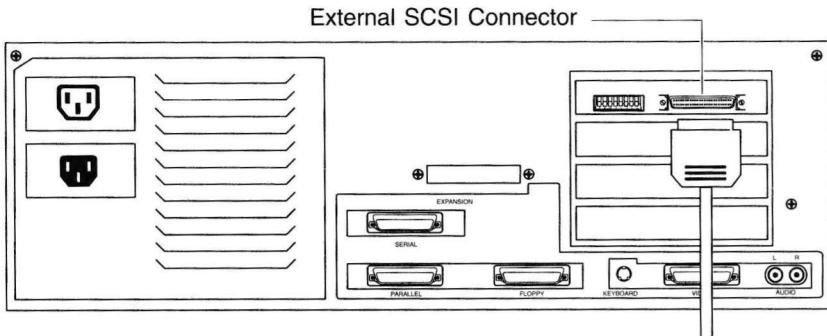

Figure 8. Connecting a Device to the External Connector
4. Insert the connector of the SCSI device cable (or adapter) into the external SCSI connector on the A4091 board, illustrated in Figure 8. Align the two pieces to slide straight into one another, since they fit tightly together. Push until the retaining clips are secured. Press the rectangular pieces of metal on either side of the connector to release the retaining clips when inserting or removing the connector.